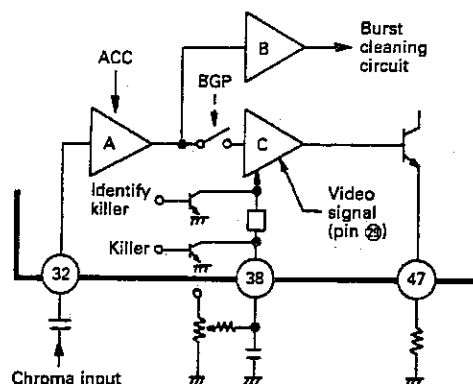

Figure 44-1.
Problem on the free-run frequency, one of the commonly discussed problems about the chroma circuit, is caused mostly due to roundabout or interference resulting from the arrangement of parts or leads on the IC. To keep the circuit in Fig. 44-1 free from this problem, it is required to arrange the parts and leads on the IC so as to make the least the turnout of CW at pin ④ when it is given no chroma signal.
The main signal is processed in the chroma amplifier and also in the demodulator circuit described later. Fig. 44-1 is a block diagram of the chroma amplifier. The signal passing through the band pass filter, where only the chroma component is taken out, is supplied to pin ② and amplified in the primary ACC amplifier (A).
The chroma signal going out of the ACC amplifier is then sent to the burst amplifier (B) or the colour control amplifier (C) in the next stage. The amplifier (B) and the amplifier (C) are shown independently in Fig. 44-1, but in actual cases most of their parts are co-used according to the design which makes the maximum gain of the amplifier (C) completely equal to the fixed gain of the amplifier (B).